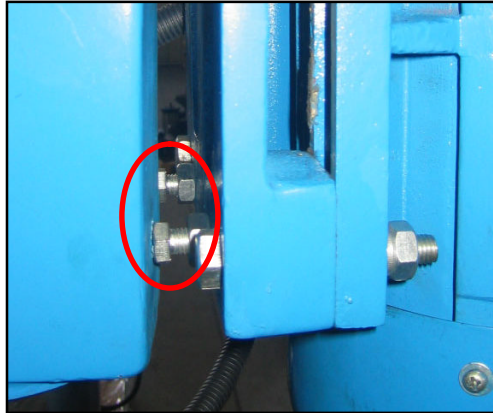

Figure 10 - Close-up of the bolts (2).
3. Unlock the counter-nuts and tighten the bolts (2) which press against the rear part of the head (figure 10), by using a wrench for hexagonal nuts.